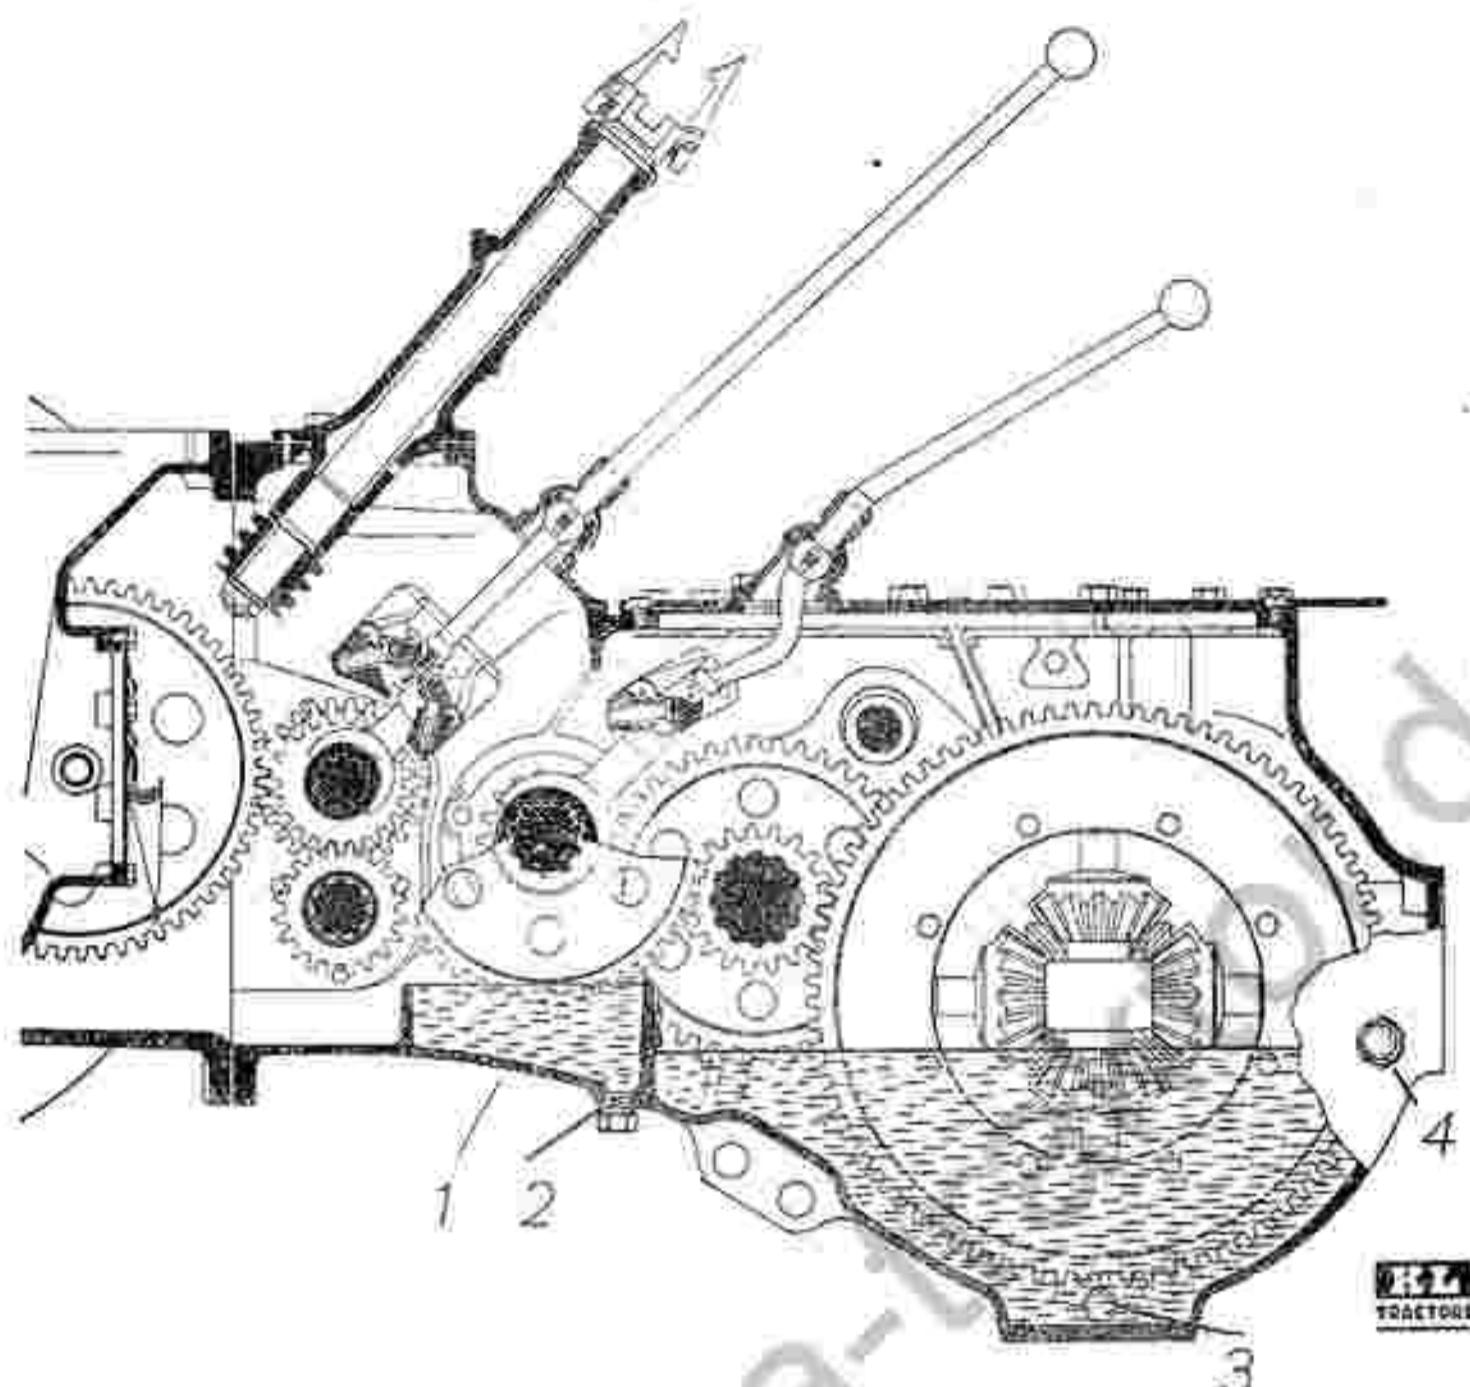

Fig. 29. Sectional view of transmission.
The gear case of the tractor is provided with a filler hole, Fig. 25, and oil lever control plug, Fig. 27, and (4), Fig. 29, and 2 drain plugs (2) and (3), Fig. 29. After the first 100 working hours the gear oil must be drained and removed. Drain the oil immediately after stopping the tractor, while the engine is still warm and the oil in liquid state, by removing plugs (2) and (3), Fig. 29. Replenish, taking care that the oil level in the housing is not higher than up to the control plug (4), Fig. 27, otherwise it might leak out and damage the rubber tyres.
When filling the gear case the oil must flow, directed by means of a funnel, into the smaller upper compartment (1), Fig. 29, arranged sideways within the gear box so that the compartment is filled to capacity before the oil flows into the lower main compartment.